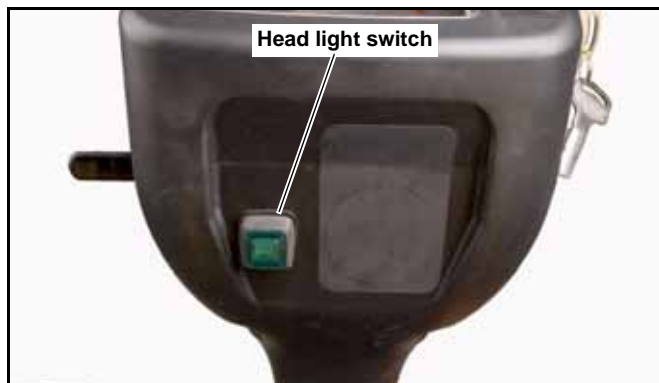

Figure 3-3
- B. **Head light switch (Figure 3-3)** — This switch is located on the steering column. Push the switch in to turn on the head lights. The head light will not come on unless the ignition switch is in the run position.